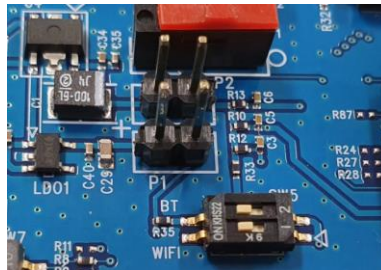

Figure 61. Set up DA16600 EVB jumper
3. Open the DA16600 EVB's power jumpers P1 and P2 as shown in Figure 61. DIP Switch (SW5) should be on to measure both of Wi-Fi chipset and Bluetooth LE chipset.